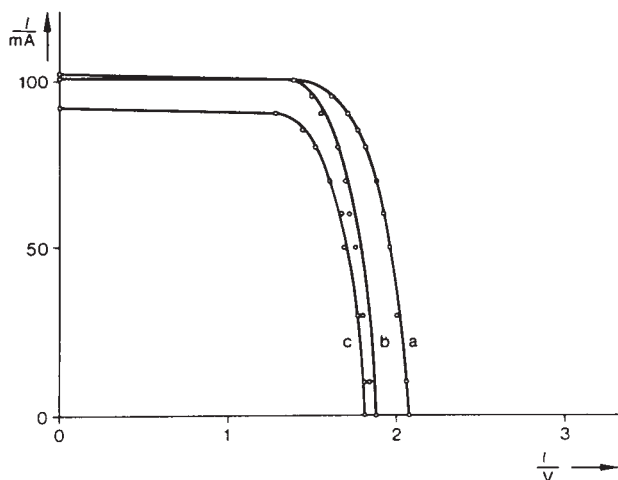

Fig. 8: Current-voltage characteristics of the solar battery
5. A glass plate which absorbs light in the infrared region can be used to reduce a rise in temperature of the solar battery. Fig. 8 shows the effect of the various 'operating modes'.